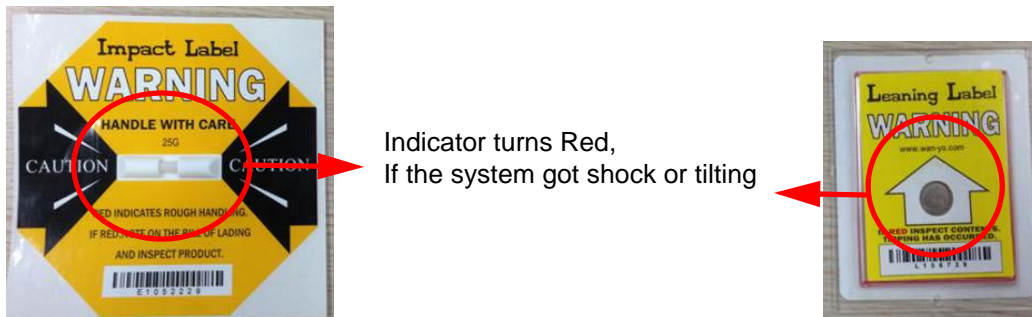

Figure 3-3 Shock and Tilt Indicator
- Inspect the Shock and Tilt Indicator for evidence of accidental shock or tilting during transit, see: Figure 3-3 below).